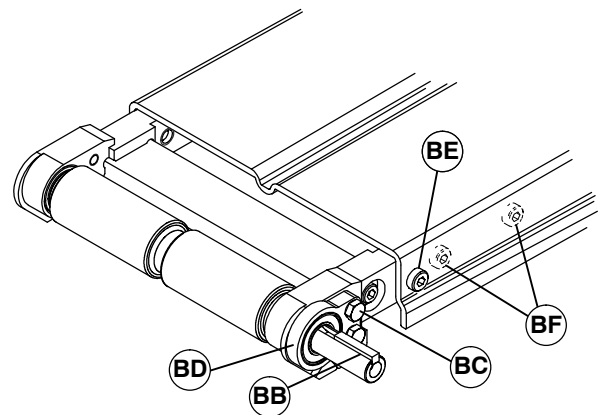

Figure 30
2. For 10" (254 mm), 12" (305 mm) or 18" (457 mm) wide conveyors, remove key (BB of Figure 30) and two M5 low head screws (BC) to remove outboard bearing (BD).
NOTE: Two screws (BF of Figure 30) were removed in step 1.